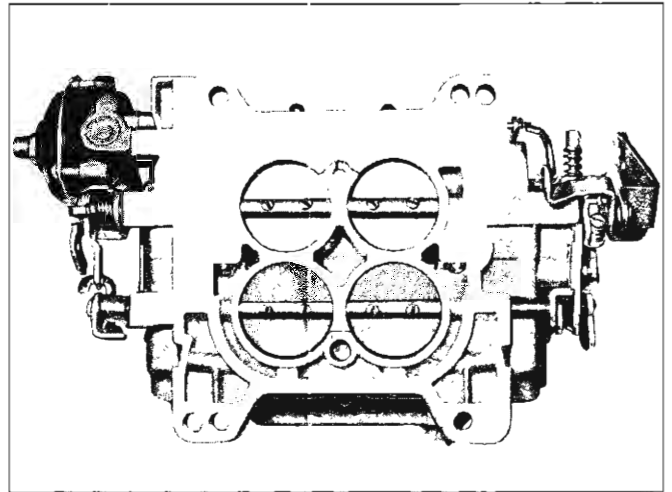

Fig. 28—Throttle Valve Position
4. Install throttle valves in shafts with part number identification toward bottom of flange and secure with new screws (fig. 28).